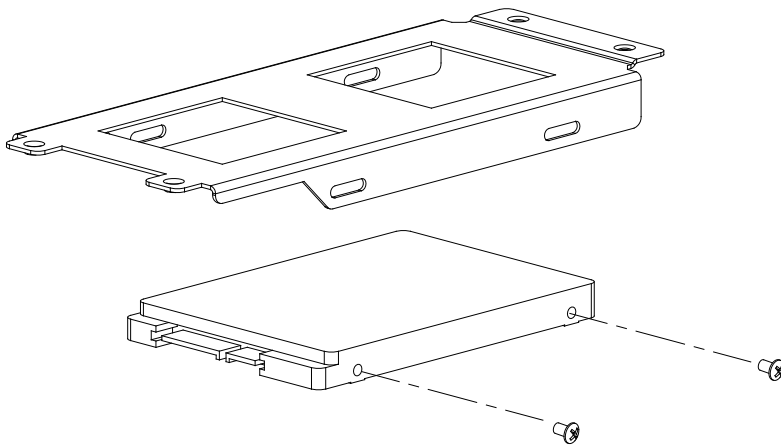

Figure 3- Removal of HDD
1.3.1 -Remove or add notebook HDD from or to HDD bracket (Figure 3),